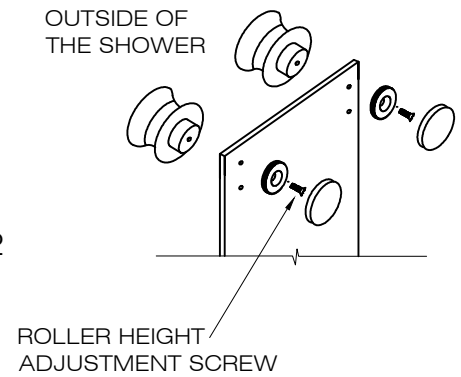

FIG. 9
4. Place the two top rollers and the door panel (#5) assembly onto the structural rail (#11). Note that the rollers have a built-in mechanism that will provide adjustment for walls that are not 100% perpendicular to the floor. If necessary, unscrew the adjustment screw and rotate the individual roller. This will raise or lower the height that the roller sits on the structural rail. Please refer to pages 13-16 for "Roller Adjustments to Accommodate Out of Square Openings." Once the rollers are properly adjusted and the door sits flush against the wall in the closed position, the adjustment will be complete. Fully tighten the adjustment screws and re-install the roller caps. [SEE FIG.9]